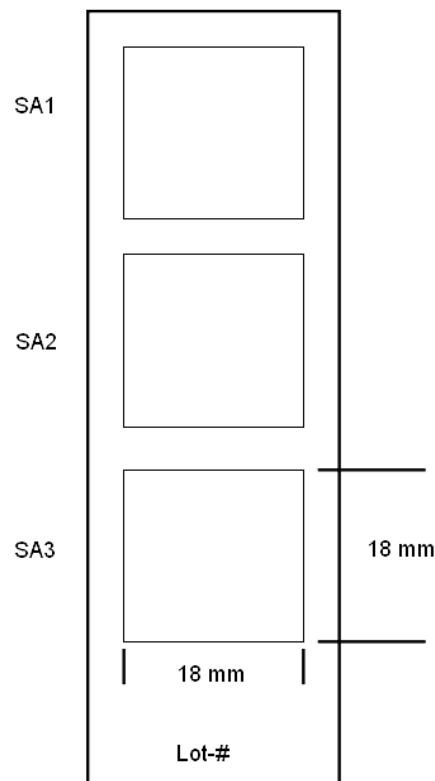

Figure 2: schematic layout of peptide microarray (SA=subarray)
A schematic layout of the peptide microarray is shown in **Figure 2**.
As shown in **Figure 2** the peptide microarray is printed in three identical subarrays (SA). This enables efficient intra-chip-reproducibility tests using scatter plots or correlation functions.